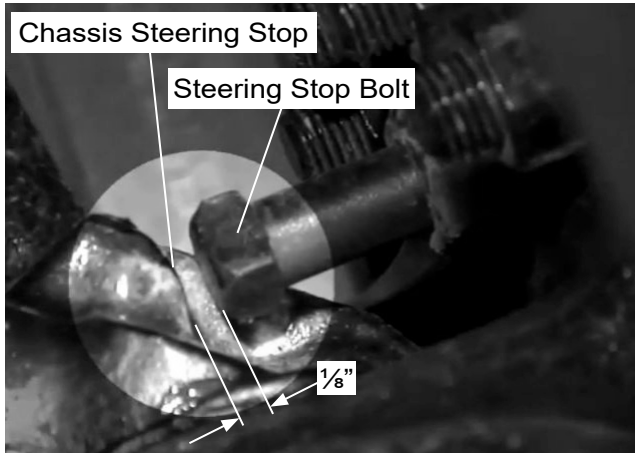
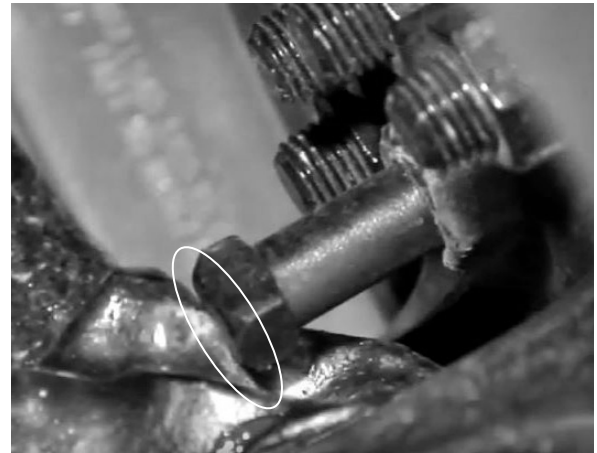

Figure 3 – Proper Stop Bolt Clearance
Figure 4 – Stop Bolt Hitting
- Check whether the steering stop bolts have the proper clearance of $\frac{1}{8}$ " from the chassis steering stops as shown in Figure 3, if they have more or less than $\frac{1}{8}$ " clearance, or if they are hitting the steering stops as shown in Figure 4.